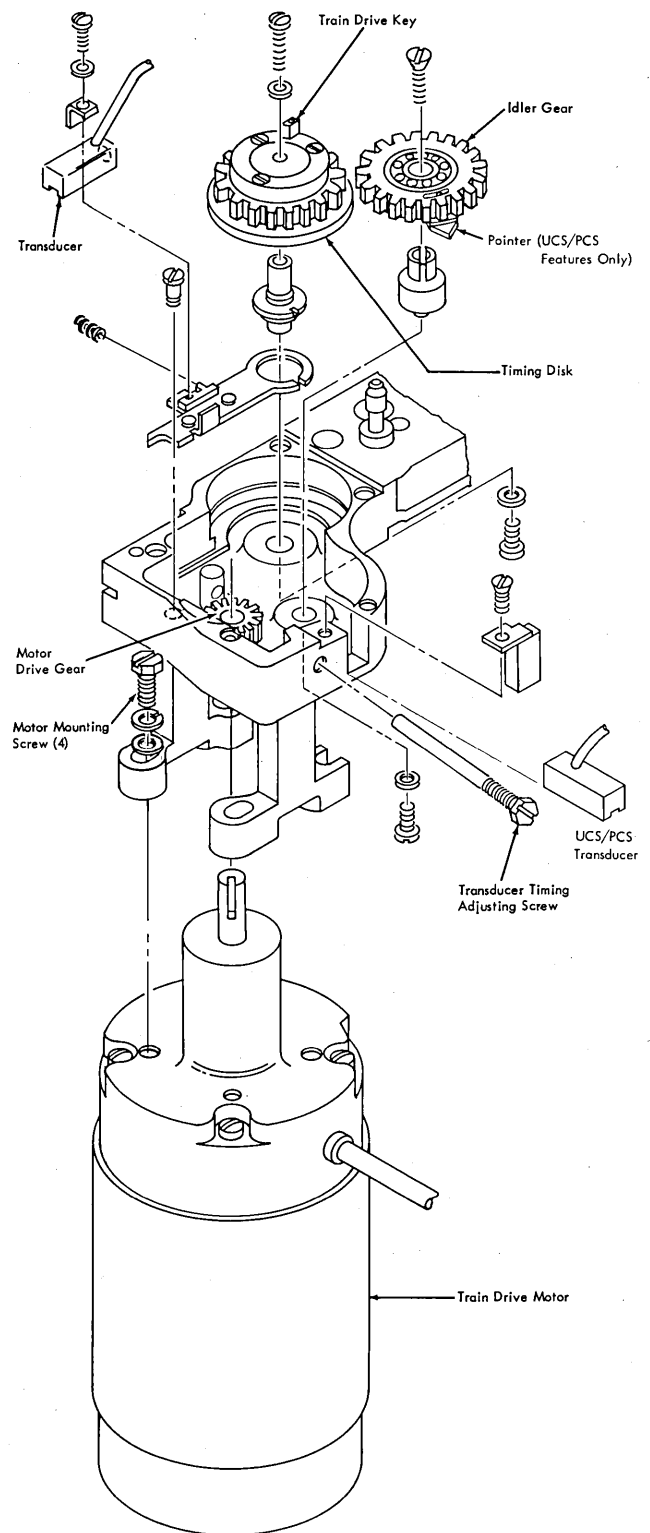

Figure 4-37. Train Drive and Timing Disk.
4. Turn the idler gear to obtain the tightest mesh with the motor drive gear (Figure 4-37).
3. Loosen the transducer-holding screw, and position the transducer (see Figure 4-37) so the minimum clearance between the transducer and the closest portion on the disk is .001 to .002 in.
- h. Rotate the transducer timing adjusting screw (see Figure 4-37), and recheck the printing until the maximum number of printed characters are centered on the hammer impression marks.
- j. If a majority of the characters are centered on the face of the hammers, the transducer adjustment is proper. If this is not the case, adjust the transducer with the timing adjusting screw (see Figure 4-37) and repeat the printing check until it is.